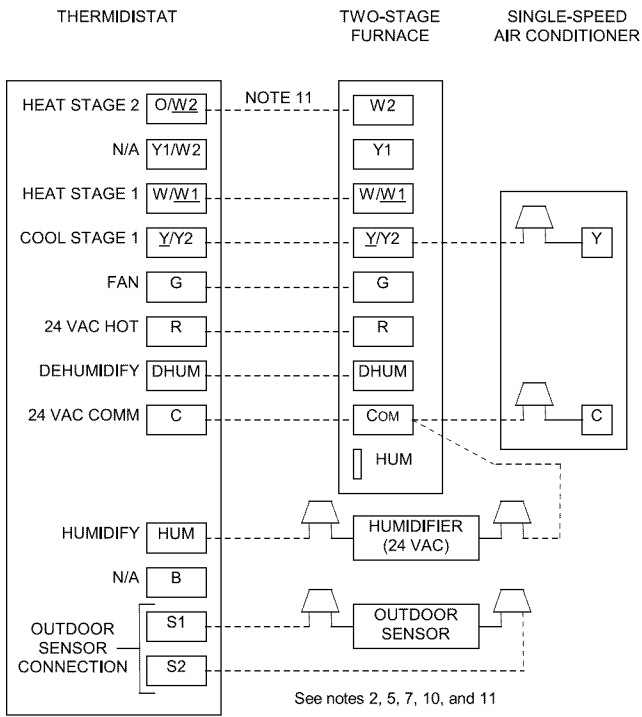

Fig. 51 - Two-Stage Furnace with Single-Speed Air Conditioner
1. **Single-Speed Cooling** (See Fig. 32 and Fig. 51 for thermostat connections.)